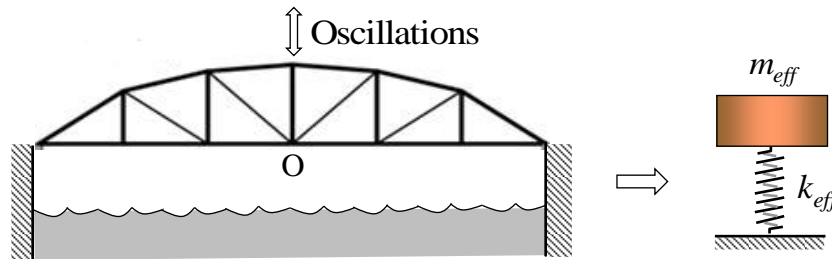

Figure 5(a)
- 3(a) It is intended to analyse the vertical oscillations of a small bridge by modelling it as a spring-mass system as shown in Figure 5(a) where  $k_{eff}$  is the effective stiffness of the bridge and  $m_{eff}$  is the corresponding effective mass. When the bridge is deflected down by imposing a certain vertical displacement at O (the mid-section of the beam) and allowed to oscillate freely, the bridge executes natural oscillations in the vertical direction as indicated. The natural period of vertical oscillations is found to be 0.4 s. When a mass 8000 kg is placed at the mid-section of the bridge at O, the natural period of the oscillation increases to 0.42 s. Determine  $k_{eff}$  and  $m_{eff}$  of the spring-mass system. Ignore damping effects.